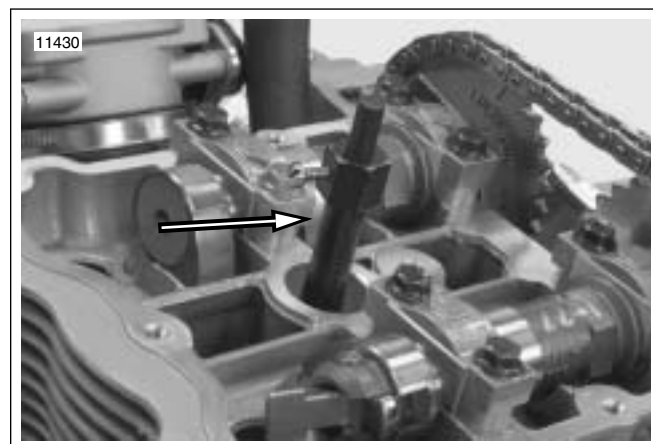

Figure 3-19. Top Dead Center Positioning Tool
4. See Figure 3-19. Install TDC POSITIONING TOOL (HD-45653) in front spark plug hole.